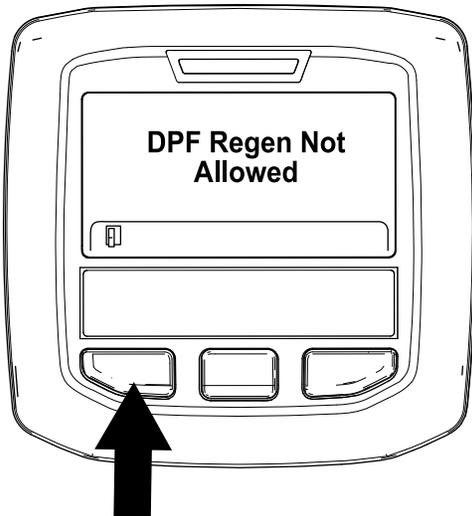

Figure 38
- If the regeneration process is not allowed by the engine computer, the “DPF Regen Not Allowed” message displays in the InfoCenter (Figure 38). Press the left button to exit to the home screen